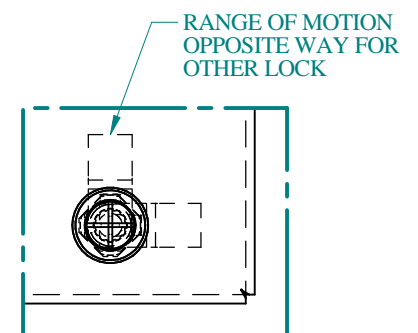

FIG. 6
- d) Ensure latches rotate as shown. (Fig. 6)